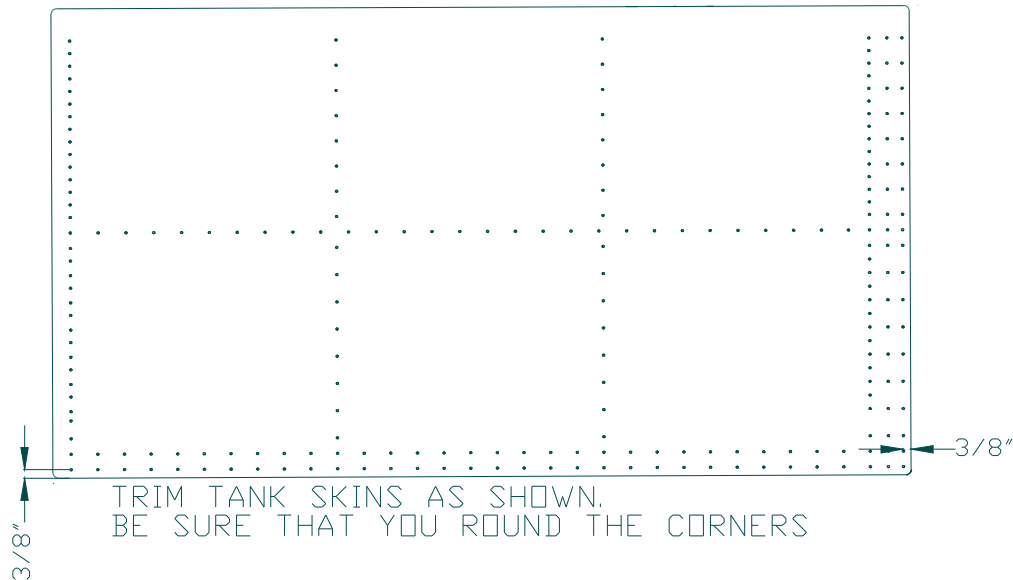

Figure 10.11.3
- 8) Wipe down with M.E.K. (Methyl Ethyl Keytone) or Acetone all mating areas of Gas Tank parts. Trim the excess off the Top and Bottom Tank Skins at this point, 3/8" from center of the hole to the outside edge. See Figure 10.11.3.